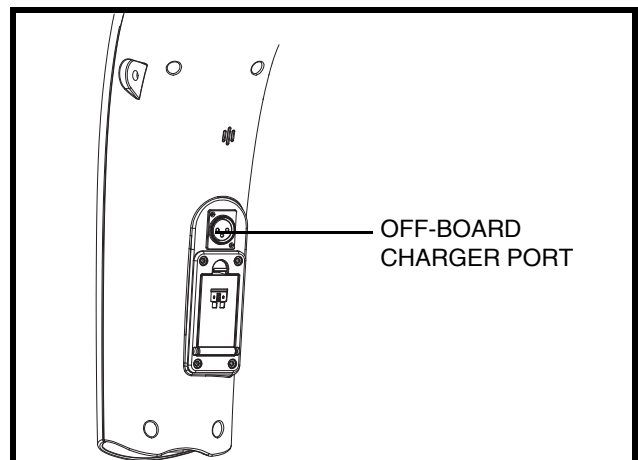

Figure 6. Off-board Charger Port (Tiller Mounted)
The off-board charger power lead plugs into this port during battery charging. The off-board charger port will be located on the tiller. See **figure 6**.
4. Plug the 3-pin charger power lead into the off-board charger port. **See figures 6 and 11.**